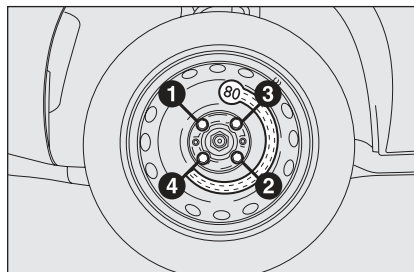

fig. 15
- using the wrench provided, fully tighten the bolts in the sequence shown previously in figure **fig. 15**.
- ❑ using the wrench provided, fully tighten the bolts in the sequence shown in **fig. 15**.